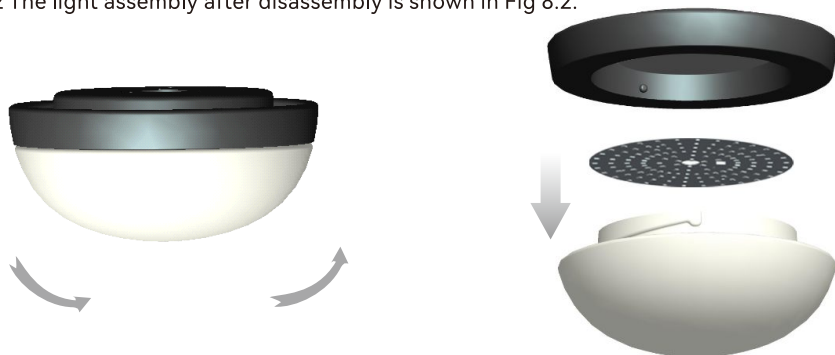

Fig 8.1
8.1 Remove the light set out of the box and turn the lampshade counterclockwise to disassemble it as shown in Fig 8.1, and then remove the LED light kit out of the light kit pan directly as the light kit is fixed by magnetic attraction.